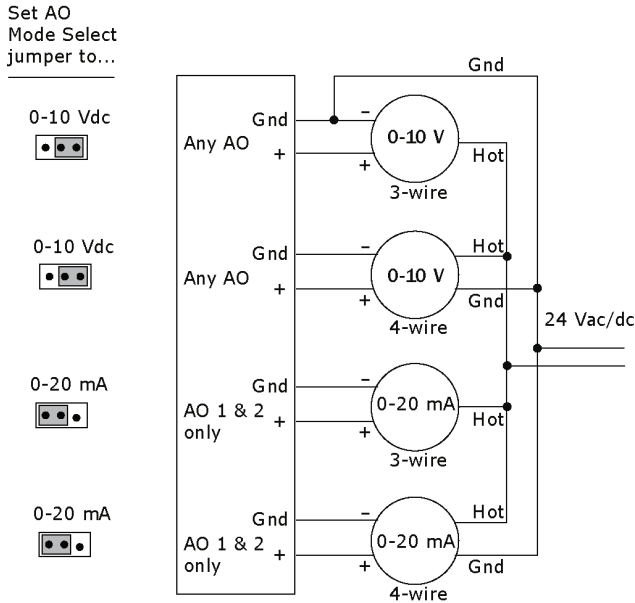

Fig. 23 — Analog Output Diagram
- Connect the analog output wiring to the screw terminals on the I/O Flex 6126 controller and to the controlled device (Fig. 23).